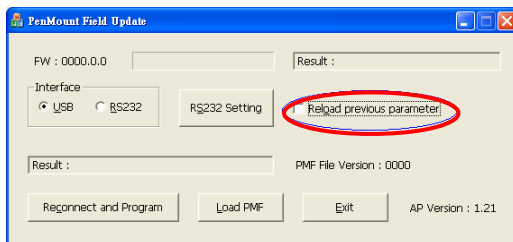

Fig.25
- Run the field update program "PmFu.exe", if you don't want to reload previous parameter please uncheck this option, then update firmware will use default setting. (Fig.25)